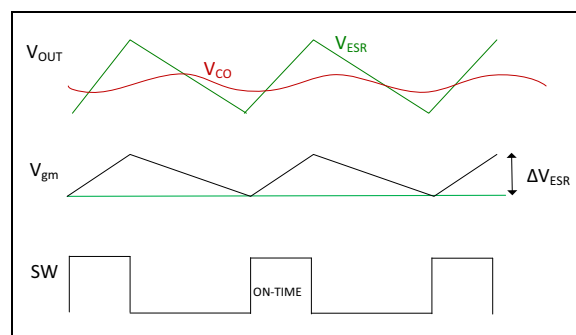
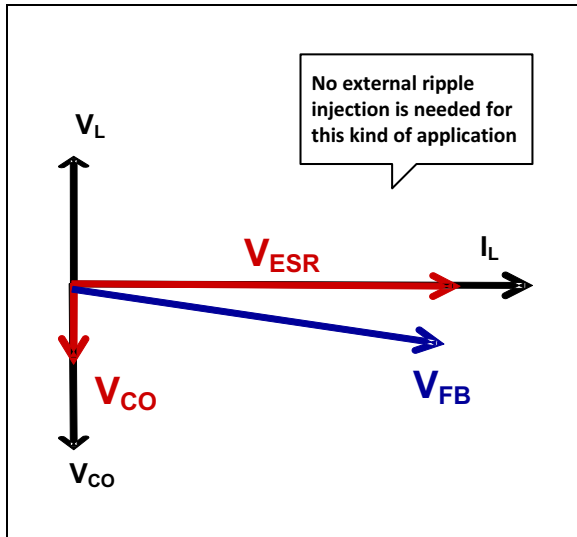

FIGURE 4-4: Output Capacitive and ESR Ripple.
FIGURE 4-5: Output Capacitive and ESR Ripple Vector Relation.
If the ripple voltage at the FB node is not in phase with the inductor current ripple, double or multiple pulsing may occur, causing the circuit to become unstable. The output capacitors generally have three components: (1) Capacitive ripple, V_{CO} , which lags the inductor current ripple, (2) ESR ripple, which is in phase with inductor current, and (3) ESL ripple, which has very minimal impact in low-voltage capacitors. Capacitive and ESR ripple are depicted in Figure 4-4. Figure 4-5 shows the vector relation of effective FB ripple voltage for high ESR capacitors.